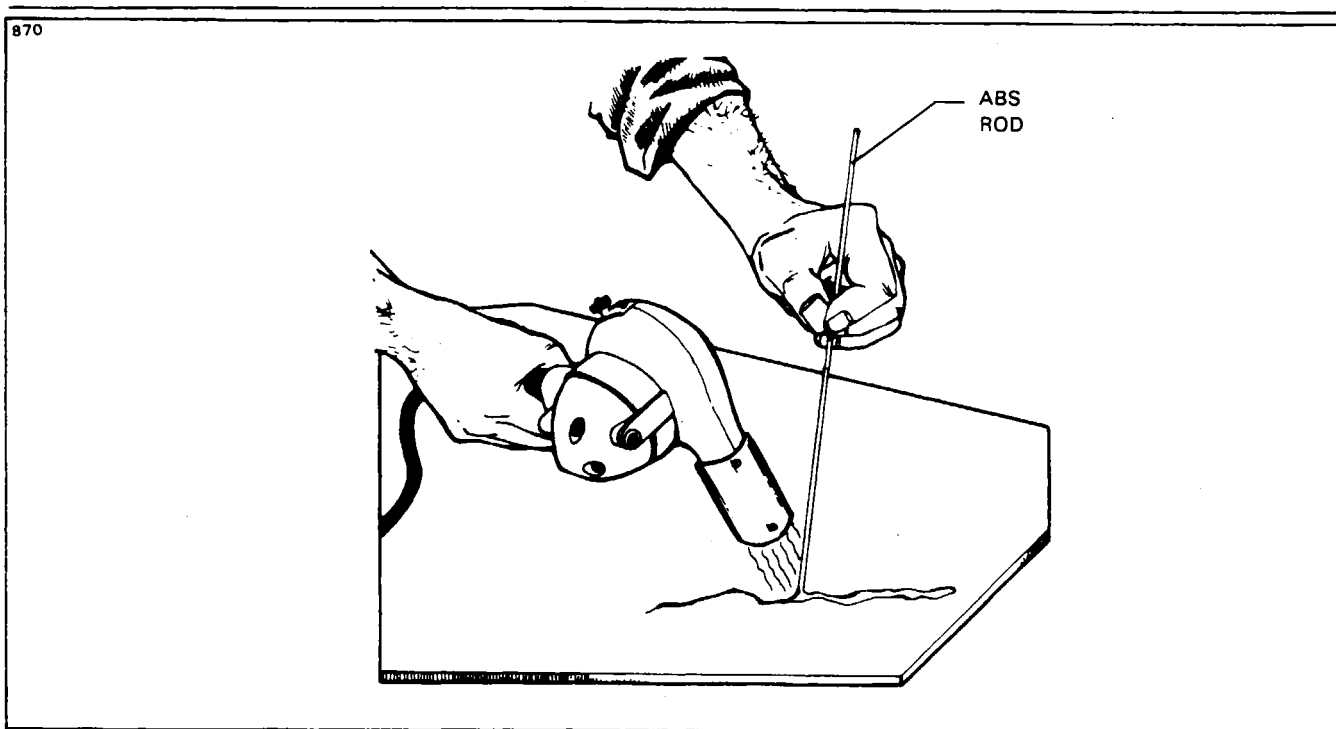

Figure 4-30. Welding Repair Method
10. This welding method requires a hot air gun and ABS rods. To weld, the gun should be held to direct the flow of hot air into the fusion (repair) zone, heating the damaged area and rod simultaneously. The gun should be moved continuously in a fanning motion to prevent discoloration of the material. Pressure must be maintained on the rod to insure good adhesion. (Refer to Figure 4-30.)